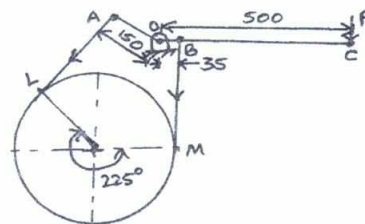

Fig.Q6(b)
- b. A differential band brake as shown in Fig.Q6(b), has an angle of contact of 225° . The band has a compressed woven lining and bears against a cast iron drum of 350 mm diameter. The brake is to sustain a torque of 350 N-m and the coefficient of friction between the band and the drum is 0.3. Find (i) the necessary force P for the clockwise and anticlockwise rotation of the drum. (ii) The value of 'OA' for the brake to be self locking when the drum rotates clockwise. (10 Marks)